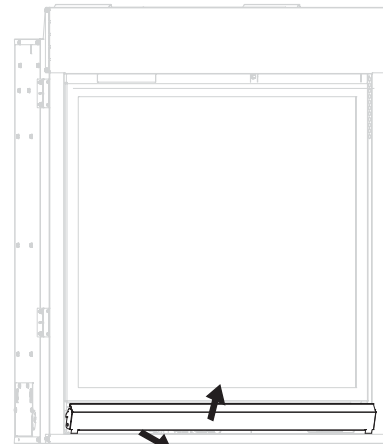

**Figure 3**
5. Install thermo disc by snapping into valve bracket burner assembly. **See Figure 3.**